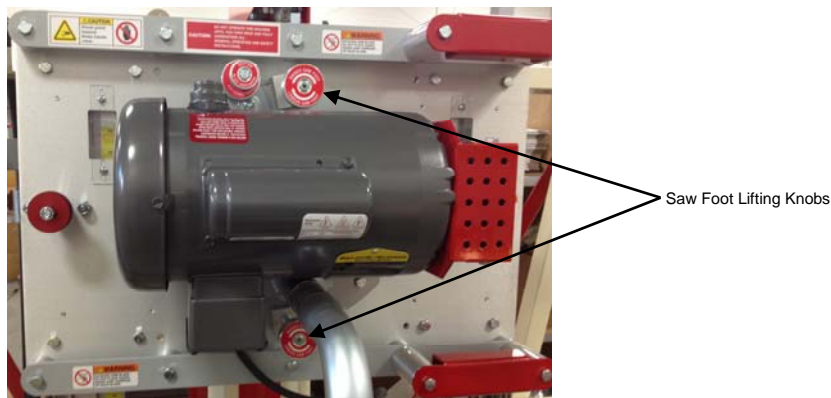

Figure 6: Adjusting the Crosscut Rulers – Saw Foot Lifting Knobs
1. Raise the Saw Foot by turning the two Saw Foot Lifting Knobs (see Figure 6) on the front of the carriage counter clockwise.
1. Raise the Saw Foot by turning the two Saws Foot Lifting Knobs on the front of the carriage counter clockwise (see figure 6).